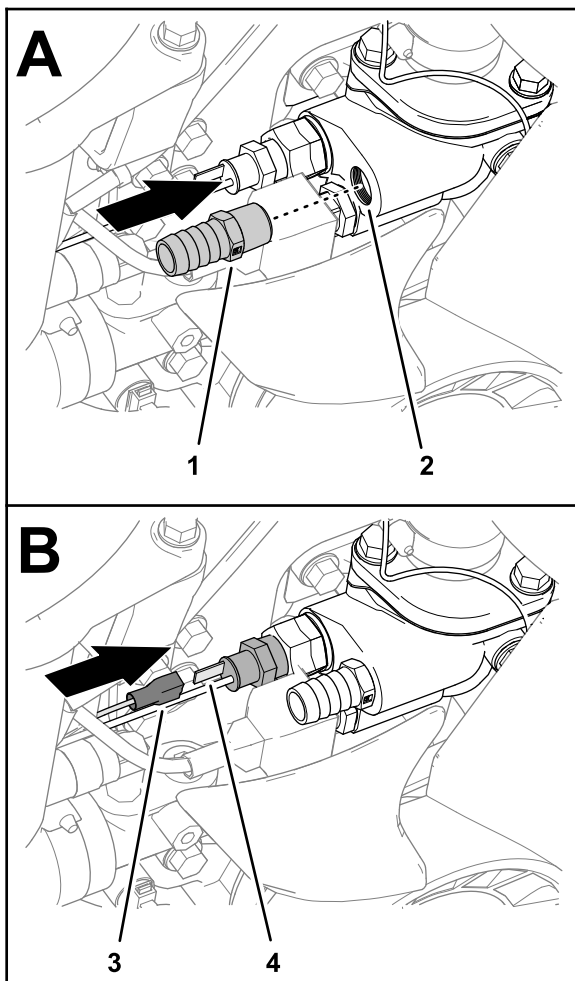

Figure 25
7. Install the barbed fitting into the rear port of the water-pump housing (Figure 25) and tighten the fitting 2 to 3 turns beyond finger tight.